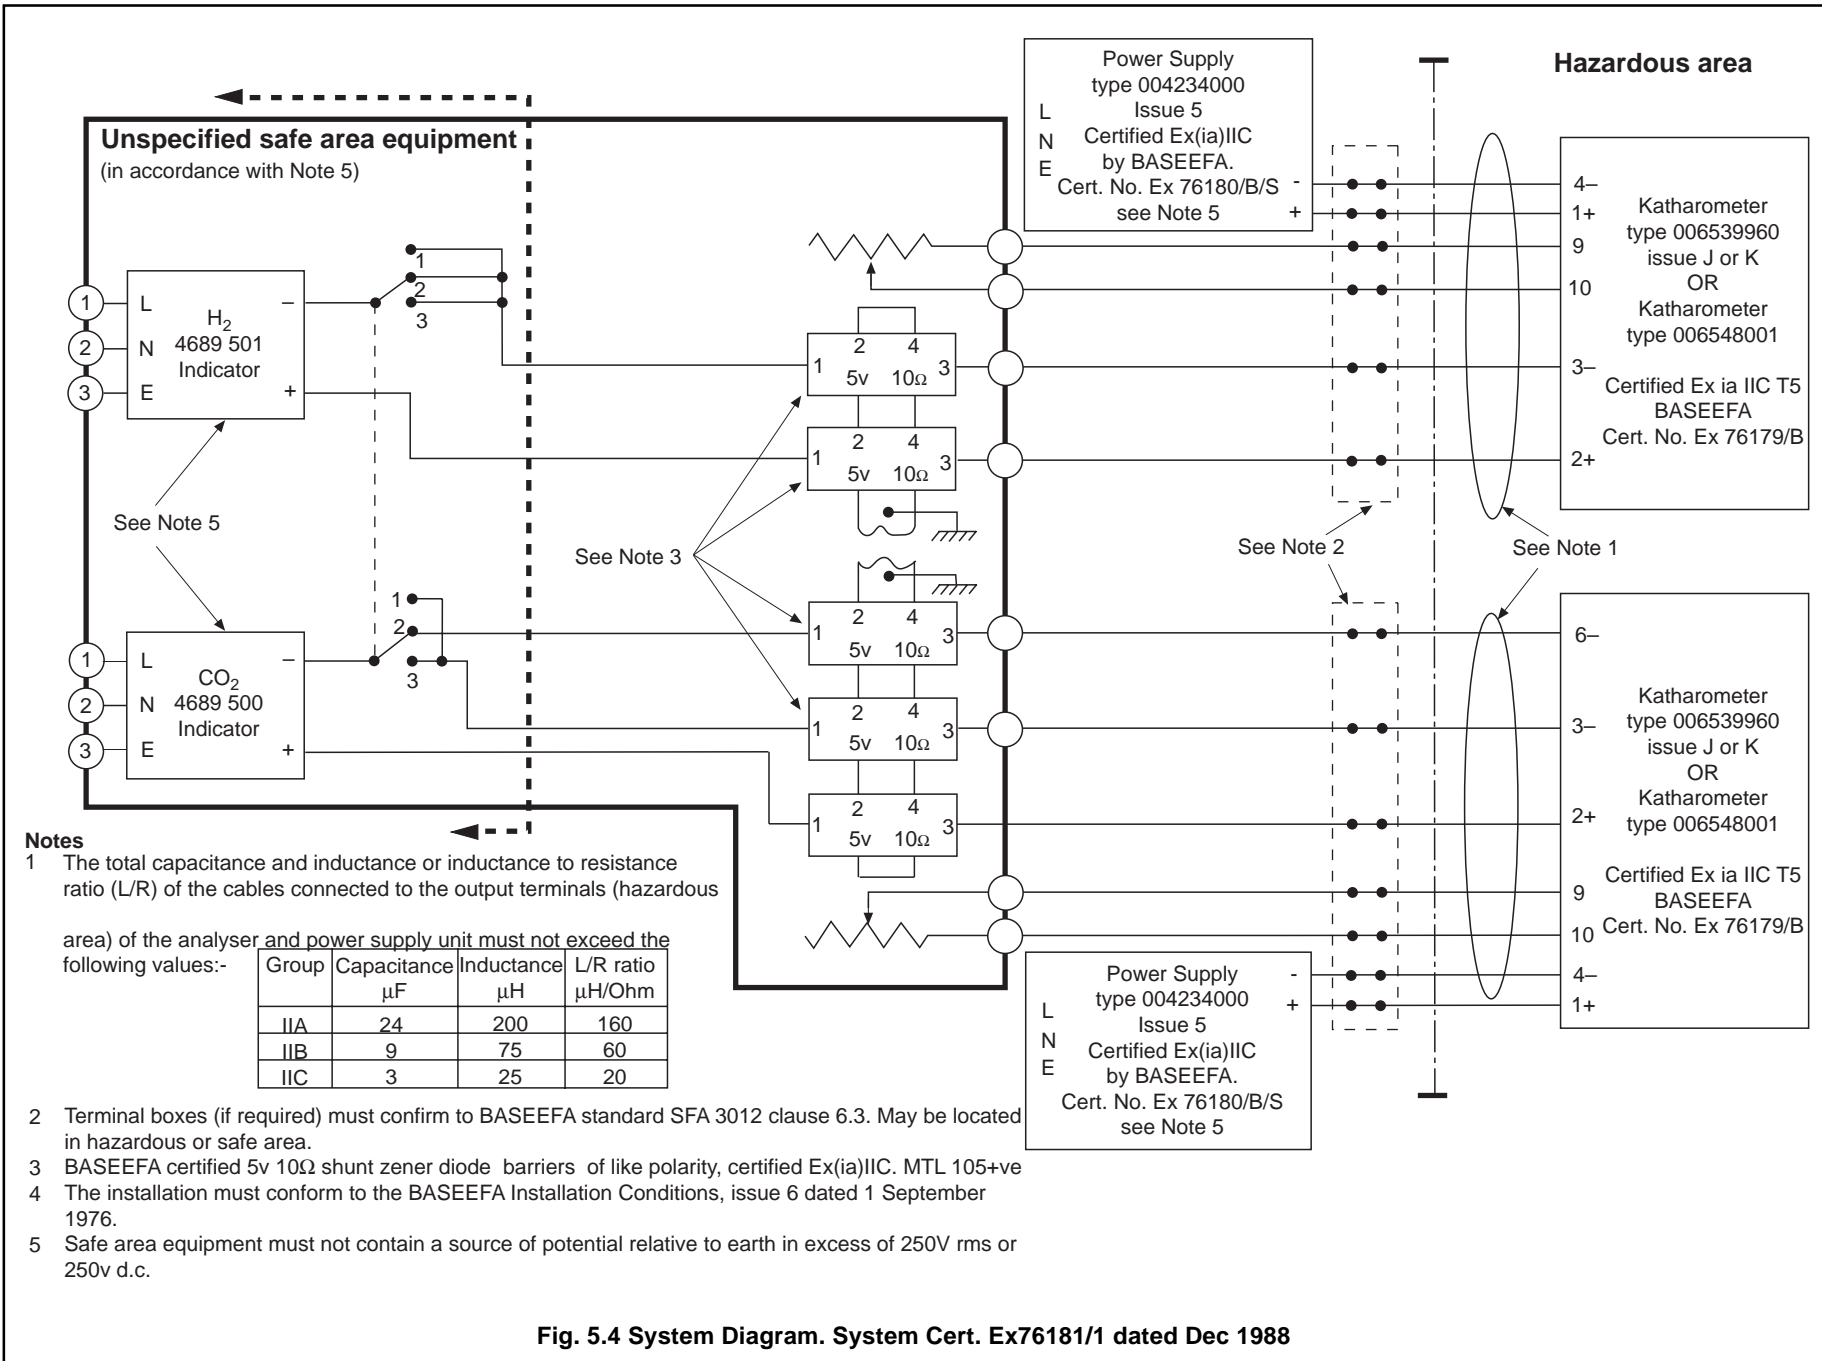

Fig. 5.4 System Diagram. System Cert. Ex76181/1 dated Dec 1988
Fig. 5.4 shows the interconnecting wiring requirements for the gas analyzer system, which must be strictly observed. Details of cable requirements, which must be strictly adhered to, are also given – see Section 5.2.1.
The interconnecting cables between the various units of the gas analysis system are subject to stringent limitations because of the requirements of the intrinsic safety certification. These are listed below and detailed in Fig. 5.4.
- c) The overall installation must conform to the BASEEFA installation conditions, Issue 6 (September 1976). See Fig. 5.4.